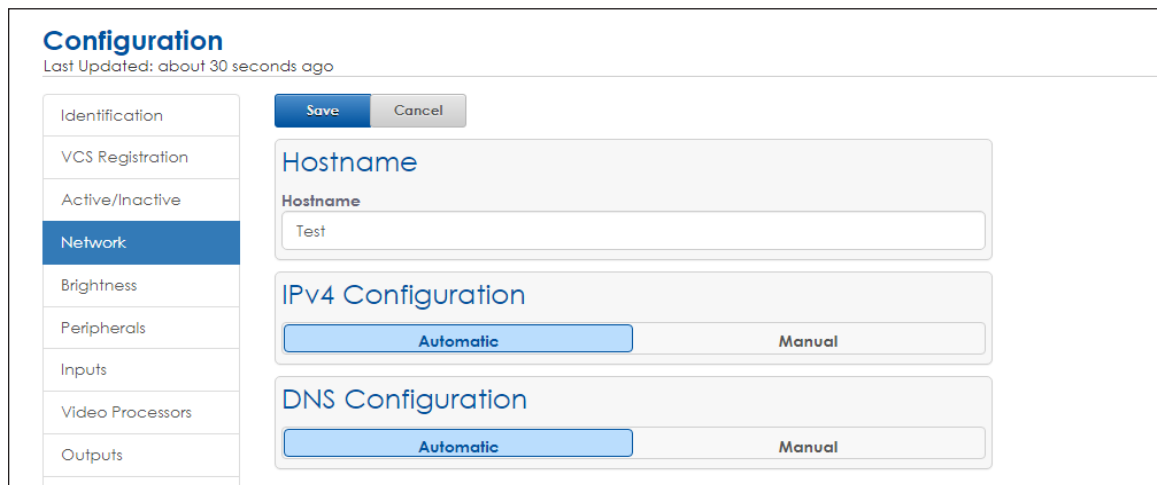

Figure 20: Configuration – Network
Set the processor's network configuration with the **Network** function. Configure the host name, Internet Protocol (IP) address, and the Domain Name Server (DNS) address to communicate with the local area network (LAN). Refer to **Figure 20**.